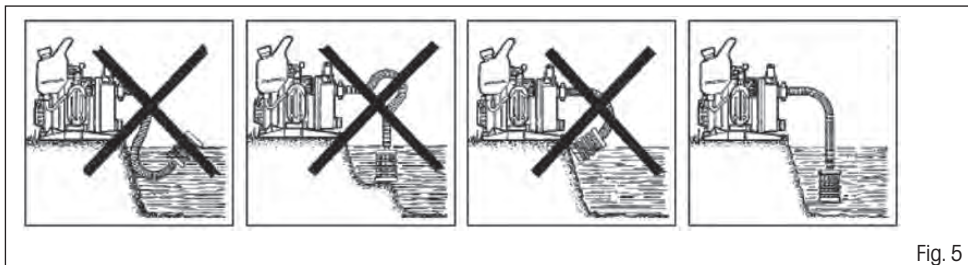

Fig. 5
- ✿ Install the pump correctly (fig. 5).